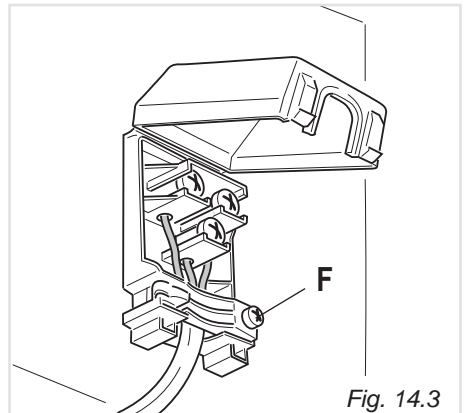

Fig. 14.3
- Open the cable gland by unscrewing screw “F” (fig. 14.3), unscrew the terminal screws and remove the cable.